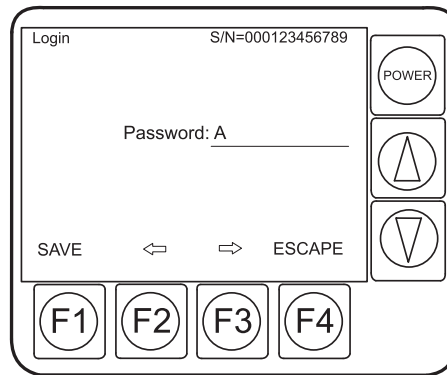

Figure 15 New password screen
2. Press **F1** (Change). The New Password screen is displayed (refer to Figure 15).